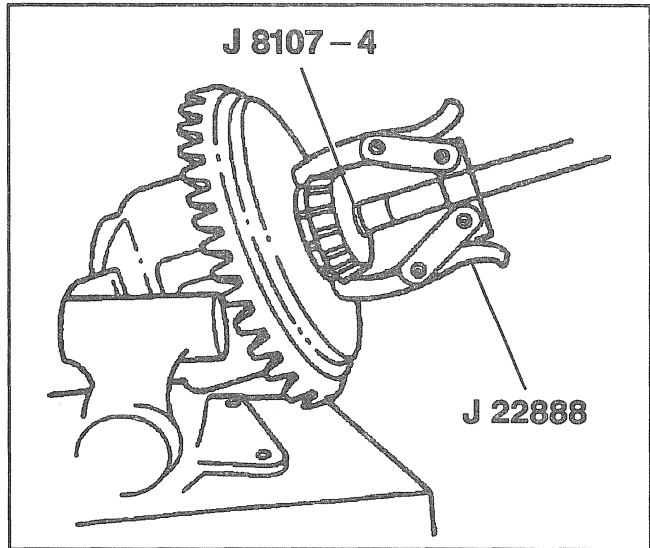

Figure 4—Removing Differential Side Bearing
- 13. Differential side bearings (8) using J 8107-4 and J 22888-20 (Figure 4).